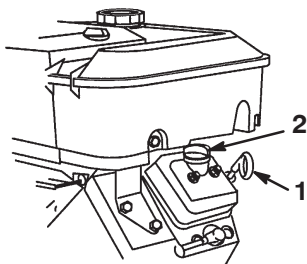

Figure 10
2. Remove the dipstick and wipe it with a clean rag (Fig. 10). Insert the dipstick into the tube and make sure it is seated fully. Remove the dipstick and check the oil level.
3. If the oil level is low, remove the filler cap from the valve cover (Fig. 10) and pour oil into the opening until the oil level is up to the Full mark on the dipstick; refer to Engine Oil, page 27, for the proper oil type and viscosity. Add the oil slowly and check the level often during this process. **Do not overfill.**